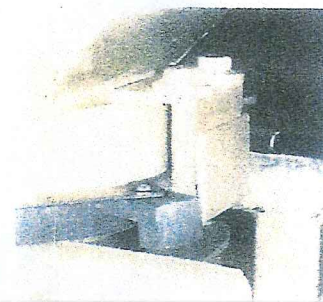

Figure 5
10. See Figure 5: Bolt base plate to base of hopper, using "L" clamps and set in position as shown in Figure 5.
11. Place spacers provided between plate and fan and tighten four (4) 3" bolts.